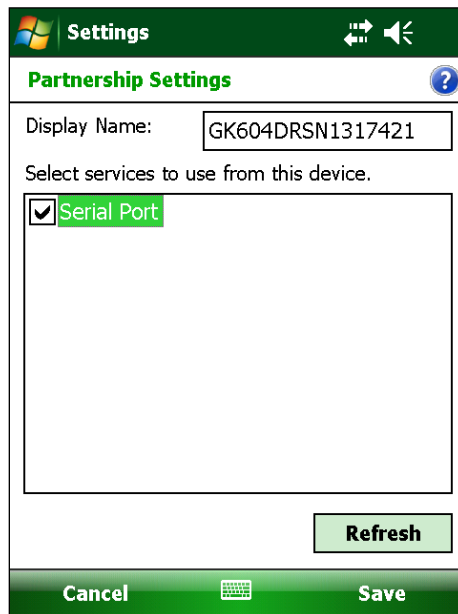

Figure 35 - Serial Port Check Box
- 9) Lastly verify that the Bluetooth device is set for Serial Port operation. From the “Devices” tab of the Bluetooth Settings manager, tap the device to be used to communicate with the remote. Figure 35 will be displayed. Ensure that the “Serial Port” checkbox is checked. Tap “Save” to complete the Bluetooth Settings.